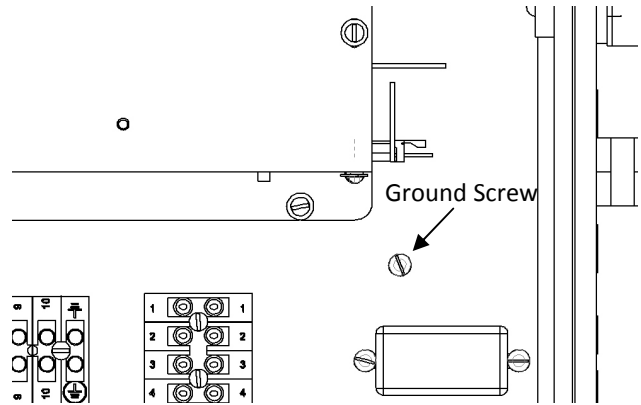

Figure 13: Ground Screw on Base Plate
3. The flow switch should have the ground (green) lead connected to the ground screw on the base plate shown in Figure 13. The trigger signal (blue) lead should be connected to the trigger signal input on the J3-5 plug header that is connected to the PC board.